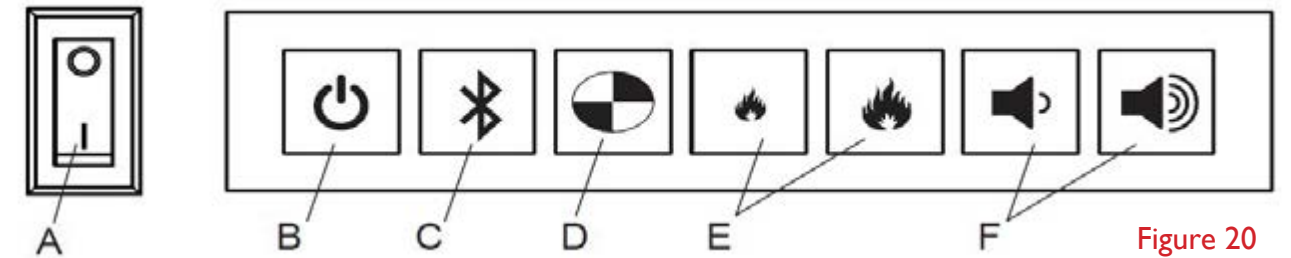
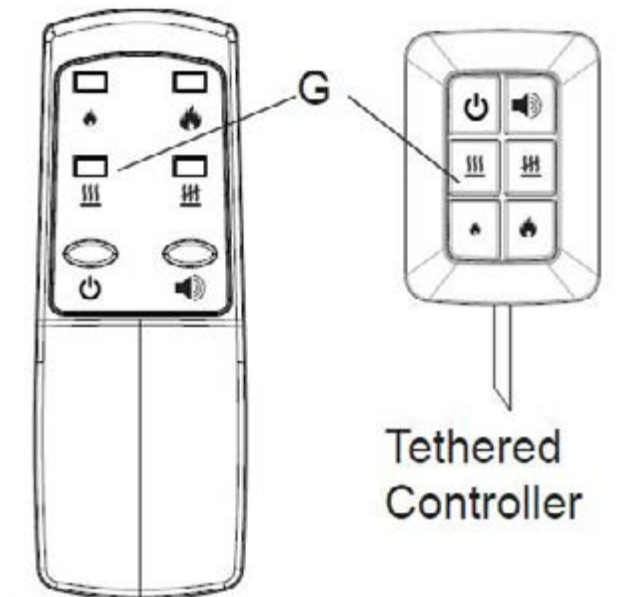

Figure 20
Figure 21
**WARNING :** This unit must be properly installed before it is used. There are three different control options available for the unit in addition to the WALL SWITCH that is required with every installation: manually using the Switch Board located under the media panel (see Figure 20), tethered controller (see Figure 21, must remain connected & tucked behind unit) and a remote control (see Figure 21).
2. Place the On/Off Switch (Figure 20) in the ON (I) position.
5. Within 20 seconds of pressing the button, press any button on the remote control (Figure 21).
2. Turn the Switch Board On/Off switch to the OFF position (O) (Figure 20).
7. Turn the On/Off switch to the ON position (I) (Figure 20).